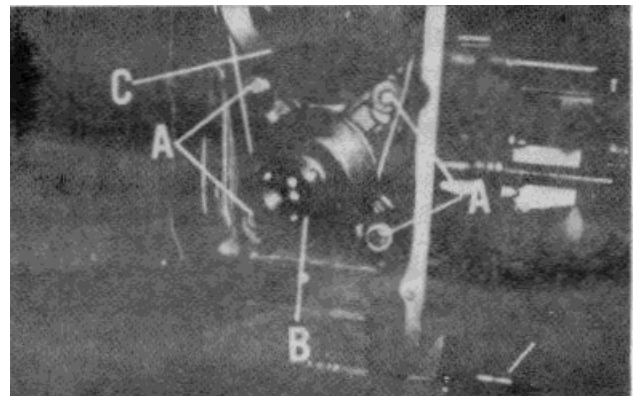

Fig. 14.
4. Loosen the four cap screws (A) Fig. 14, that hold the countershaft bracket to the mill.
5. With a heavy screwdriver or other suitable tool placed between the one step countershaft pulley (B) Fig. 14, and the spindle pulley (C), pry the pulleys apart until correct tension is obtained on the countershaft to spindle belt, and tighten the four screws (A). **CAUTION: Care must be taken that the grooves of the counter-shaft pulley and the spindle pulley are not damaged during this operation. The correct tension for the countershaft to spindle belt is $5/64$ " deflection with five pounds thumb pressure in center of span.**